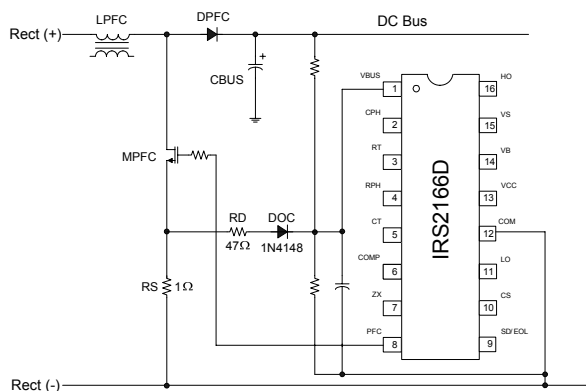

Fig. 14: External over-current protection circuit
During lamp ignition, the DC bus can drop below the rectified AC line voltage causing current to conduct directly from the output of the rectifier, through the PFC inductor and diode, to the DC bus capacitor. This results in a low-frequency offset of current in the PFC inductor. Since the zero-crossing detection circuit only detects the high-frequency zero-crossing of the inductor current, the PFC MOSFET will turn on again each cycle before the inductor current has reached zero. This causes the PFC to work in a continuous conduction mode and the sum of the low-frequency and high-frequency components of current can saturate the PFC inductor and/or damage the PFC MOSFET. To protect against these conditions, a current sense resistor (ROC) must be inserted between the source of the PFC MOSFET and ground, and a series diode (DOC) and limiting resistor (RD) connected from the top of the current sensing resistor to the VBUS pin (Fig. 14).